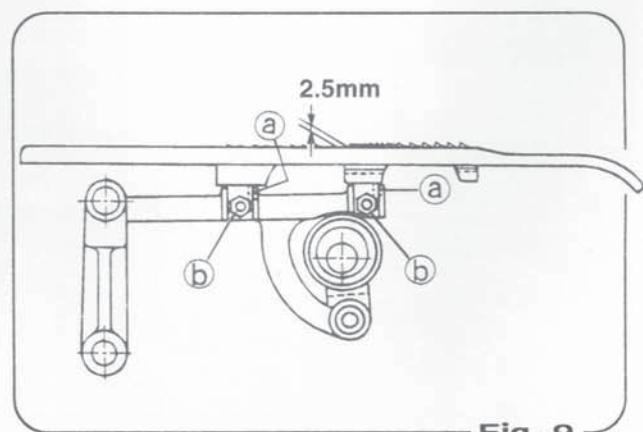

Fig. 9
- Adjust the height of the feed dog so that it protrudes 2.5mm from the upper surface of the throat plate when the feed dog has risen to the highest position, as shown in (Fig.9). If the feed dog is higher than this, stitch will not chain satisfactorily, and if it is lower than this, the stitch width will be too small. Slacken nut ⑤ with a box spanner to adjust the height of the Feed Dog. It is important to adjust the height with set screw ④ to ensure that the pressure from the Pressure Foot should not force it back down. Tighten nut ⑤ when the adjustment is correct.
- 送料齿(前)到最高位时，测查送料齿在针板面上高度，必须 2.5mm 如(图 9)所示。请将调节螺钉④拧左右而调为送料齿 2.5mm 高于针板上面。调整结束用筒板子拧紧螺母⑤固定送料齿。